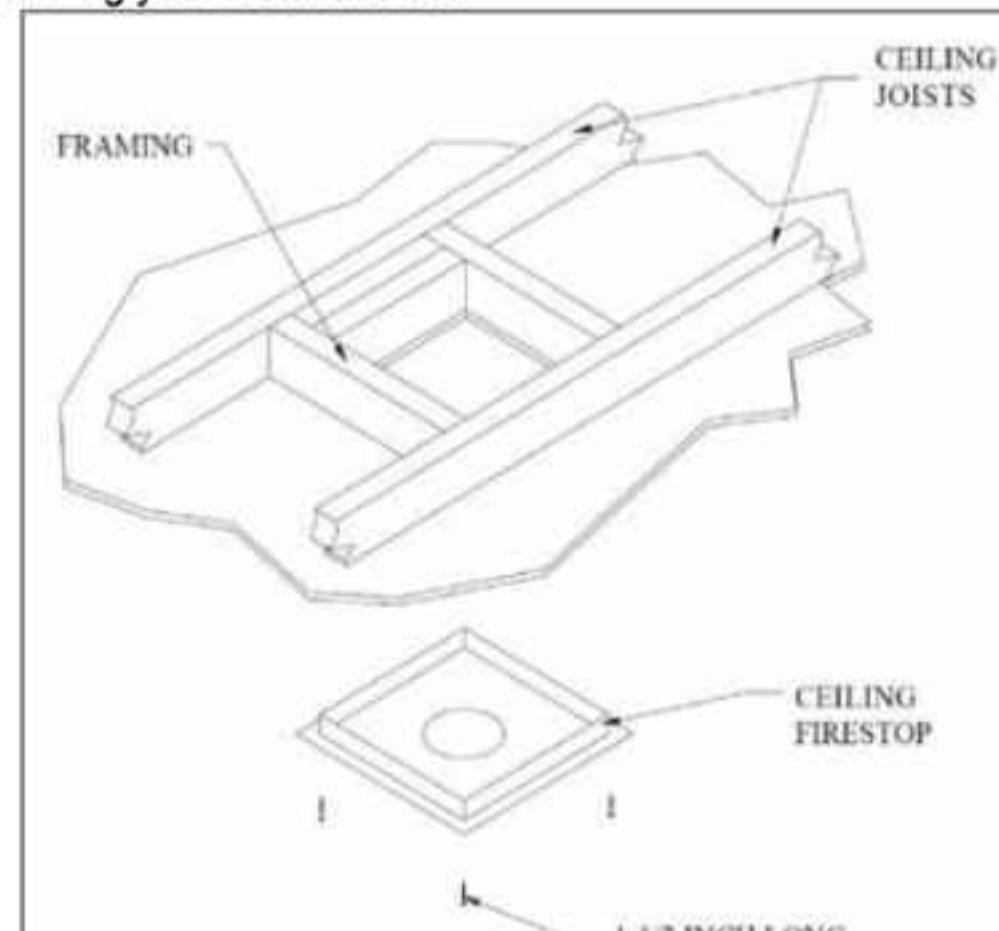
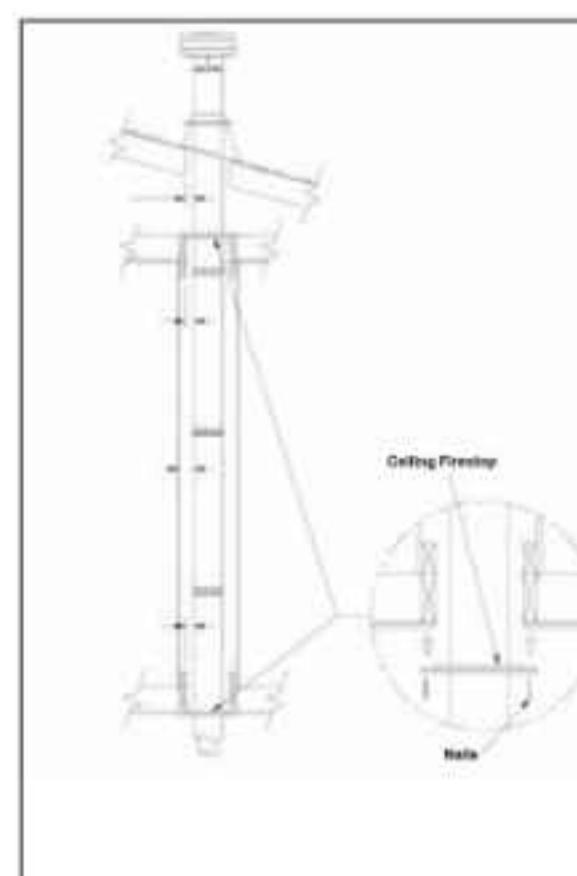

Figure 40: Installation of Ceiling Firestop.
Figure 43: Installation of Ceiling Fire Stops.
Step 3. To install the Ceiling Firestop in a flat ceiling, cut a square hole in the ceiling 11" x 11" (280x280mm) square for 8" x 5" pipe, centered on the hole drilled in Step 2. Frame the hole as shown in Figure 40.
- (1) For multi-story vertical installations, a Ceiling Firestop is required at any subsequent floors (as shown in Figure 43). The opening should be cut and framed in the same manner as the opening in Step 3 (see Figure 40).
- (2) Any occupied areas above the first floor, including closets and storage spaces, which the vertical vent passes through, must be enclosed. The enclosure may be framed and sheet rocked with standard construction materials, however minimum allowable clearances between the outside of the vent pipe must be maintained. Do not fill any of the required air spaces with insulation.